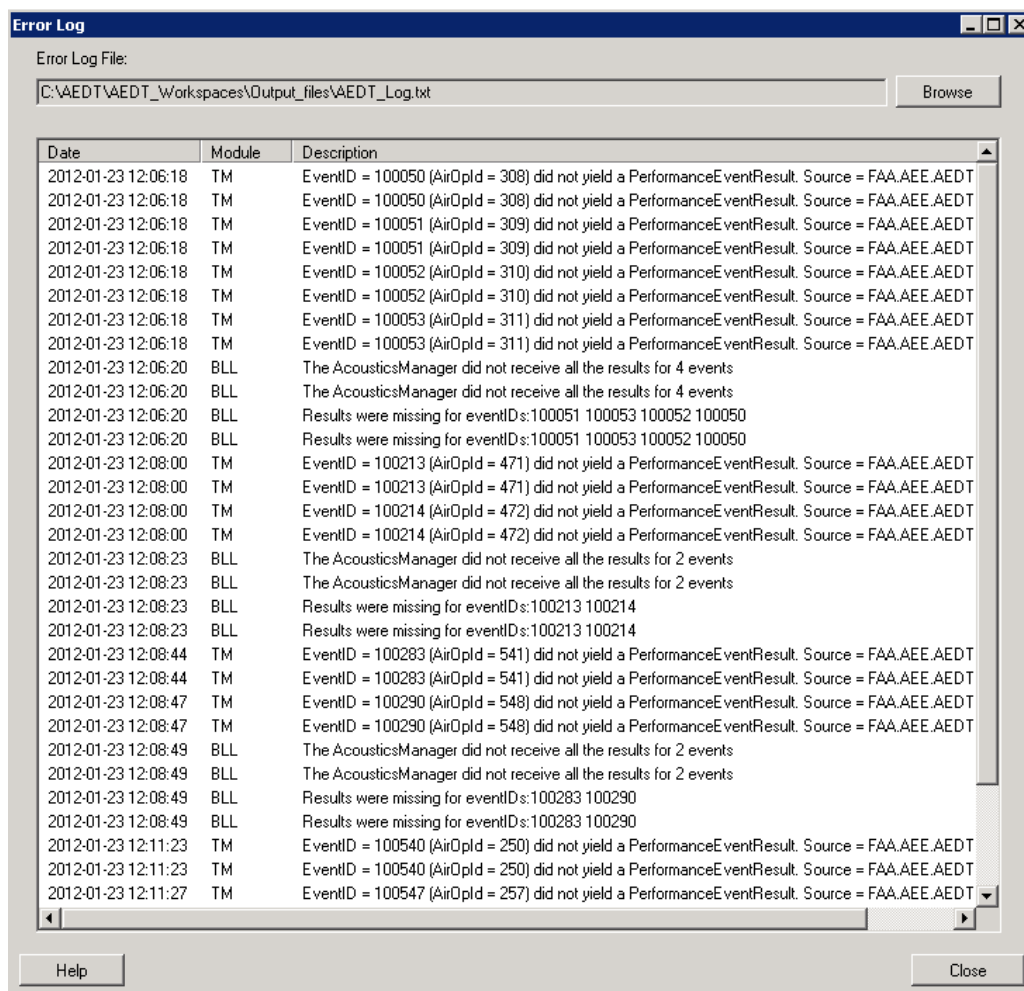

Figure 6-9 Error Log Dialog Box
2. The *Error Log* dialog box displays the content from the most recent log file, *AEDT_Log.txt*. It shows date and time, module name, and description of each error present in the study (Figure 6-9).
6. After the file has been selected, the error log table will be populated (Figure 6-9).